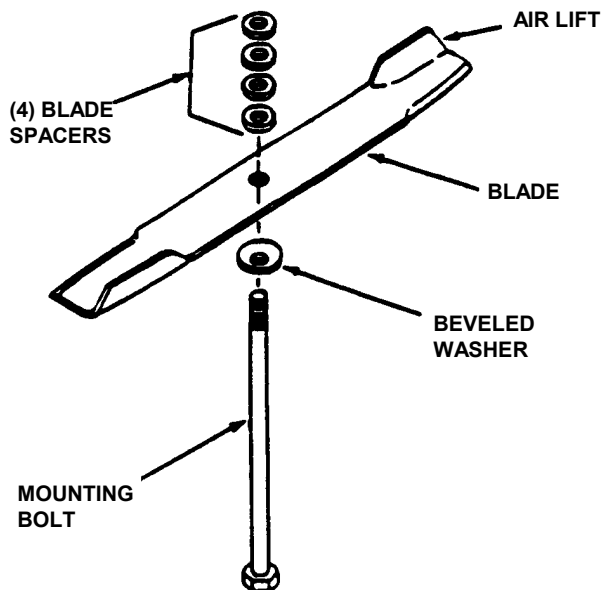

FIGURE 5.6
1. Remove blade. See Figure 5.6.
5. Reinstall blade. See Figure 5.6. Torque blade mounting bolts to recommended range of 70 to 80 ft. lbs.